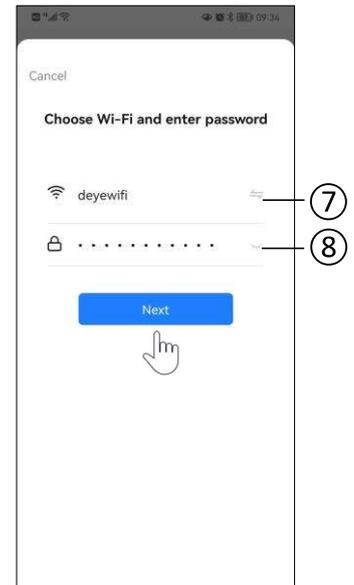

Fig.15 Connect specified WIFI
6. Select the WIFI where the device works and enter the correct password. Then click <Next> to proceed to the next step (Fig.15);